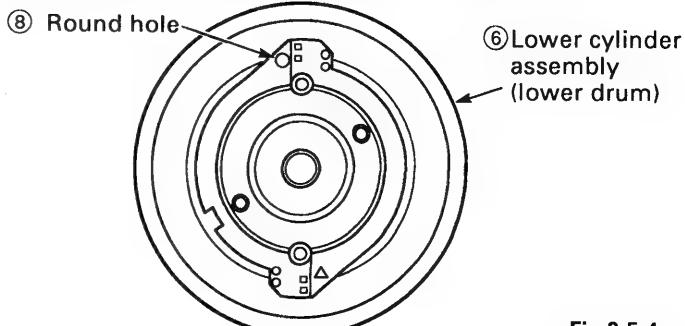

Fig. 3-5-4
1. When carrying out assembly, the CH-1 head on the upper cylinder assembly (upper drum) ④ and the lower cylinder assembly (lower drum) ⑥ must be aligned. The CH-1 head on the upper cylinder assembly ④ bears a code ⑦ such as 2N2S-V, 2N4N, or 4H6N, as shown in Fig. 3-5-3. The CH-1 on the lower cylinder assembly ⑥ has a round hole ⑧, as shown in Fig. 3-5-4. Assemble the parts so that the round hole ⑧ is next to the code ⑦ on the upper cylinder assembly.